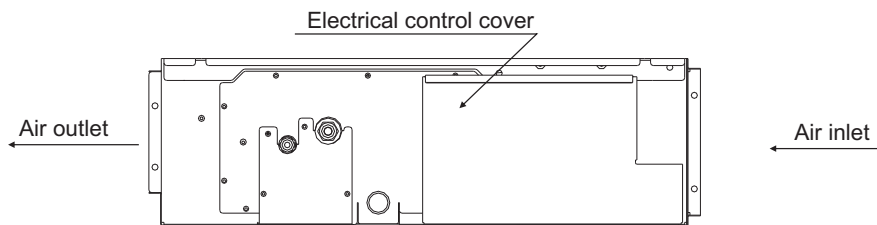

Fig.6.1
- (1) As shown in Fig. 6.1, remove the screws from the electrical control cover.